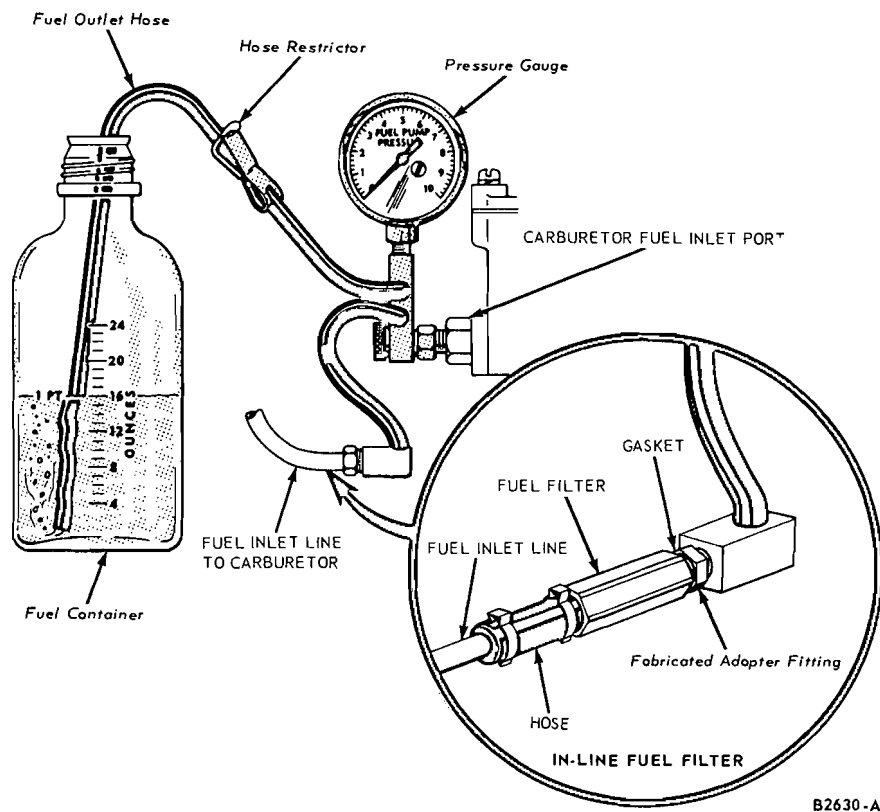

FIG. 2—Typical Fuel Pump Pressure and Capacity Test Equipment
2. Connect a pressure gauge, a restrictor and a flexible hose (Fig. 2) between the fuel filter and the carburetor.
3. Position the flexible hose and the restrictor so the fuel can be discharged into a suitable, graduated container (Fig. 2).
2. Open the hose restrictor and expel the fuel into the container (Fig. 2), while observing the time required to expel one pint; then close the restrictor. One pint of fuel should be expelled within the specified time limit (Part 10-11).